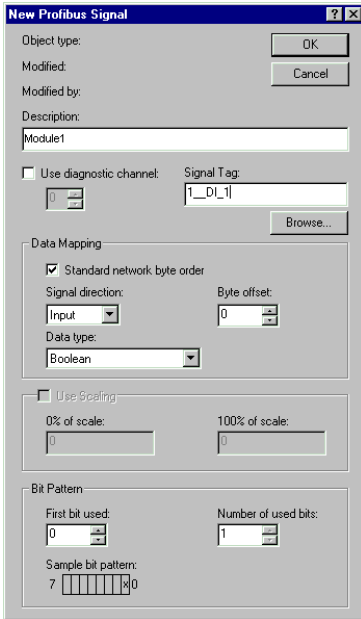
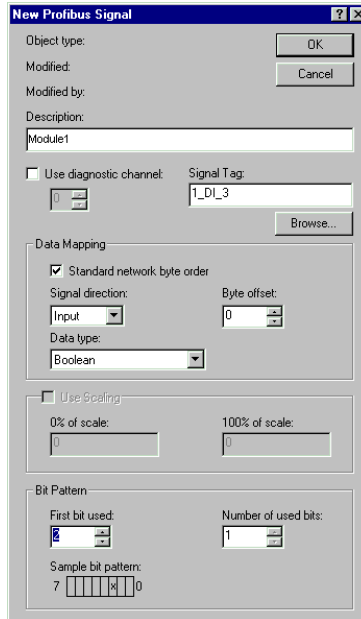
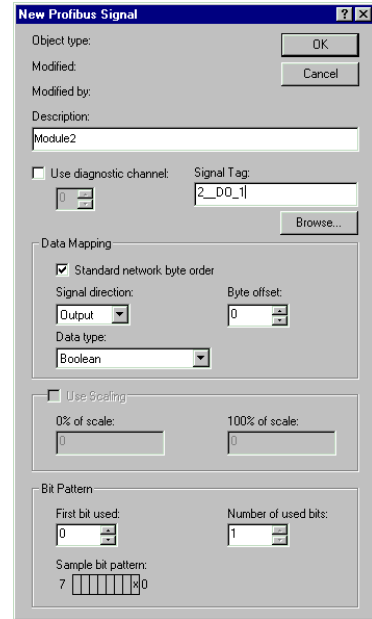
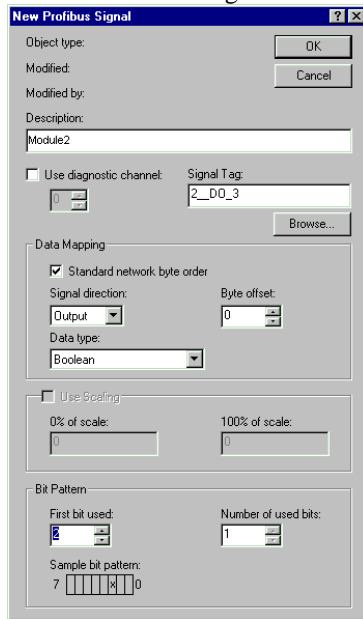

Figure 15.
Figure 16.
Figure 17.
Figure 18.
Figure 15 defines a binary input (DI) for channel 1 slot 1. Figure 16 shows channel 3 of the DI module in slot 1 is defined as Boolean. Figure 17 shows the DO channel 1 in slot 2 defined as binary and figure 18 shows channel 3.